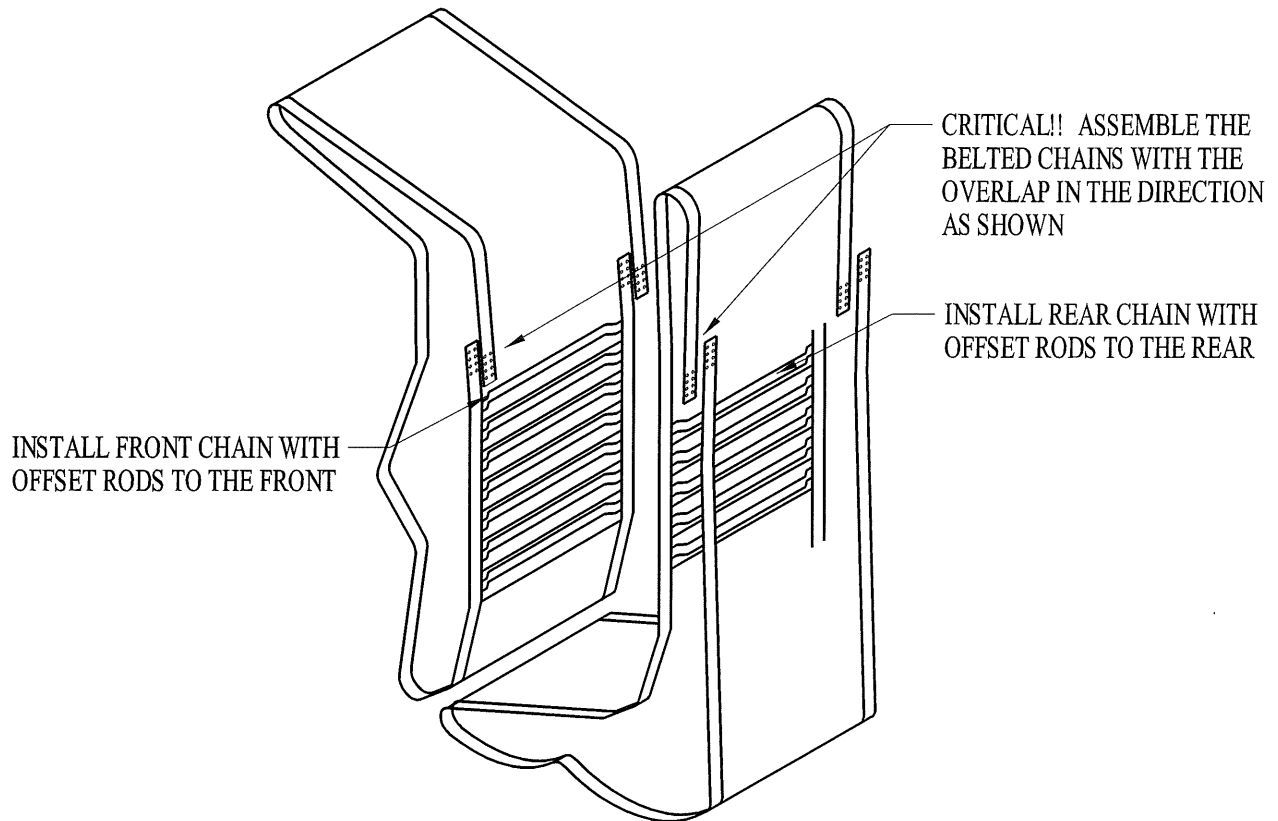

FIGURE 4
Step 7: Wrap the lower end of the rear belted chain around the rollers as shown in Figure #5, pg. 14, or the decal on the side elevator panel. Attach the ends of the belts along with the chain rods and backing clamps furnished, being sure that the overlap connection is in the direction illustrated in Figure 4. Tighten the lock nuts on the bolts until they are snug and secure. Be sure